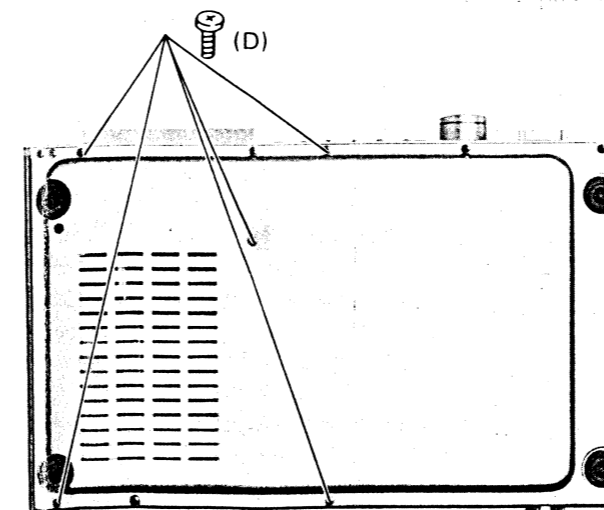

Figure 16
2. Remove five screws (D) from the bottom plate. (See Figure 16)